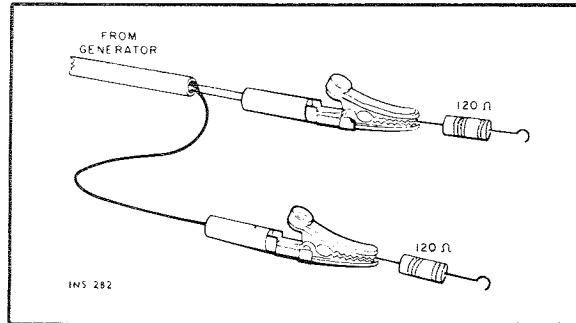
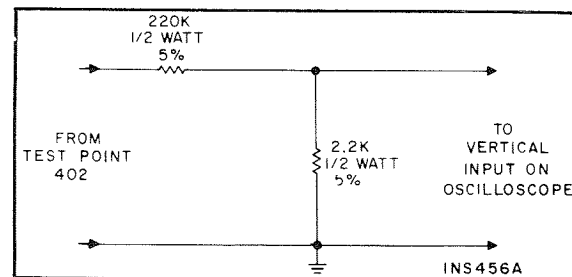

Figure 7. Connections To Provide 300-ohm Generator Output Impedance. Matching Resistors Reduce Generator Voltage By Half At Antenna Terminals.
Figure 8. Voltage Divider Probe.
- (1) Set TUNING dial pointer to zero (0) calibration mark on the logging scale. If the dial pointer is not centered on the 0 at the extreme end of the knob rotation, reposition the pointer assembly on the dial cord and cement the pointer in place to prevent slippage. Allow cement to thoroughly dry.
- (2) Connect an accurately calibrated DC VTVM to Test Point 9B (on TUNE-O-MATIC circuit board). DO NOT USE DC VOM.
- (3) Rotate TUNING knob to center dial pointer on 88 MHz calibration mark on dial glass.
- (4) Using a small screwdriver, adjust R2B, FM ALIGNMENT POT. for DC VTVM reading of exactly 4.3 volts. Disconnect DC VTVM.
- (5) Connect an FM generator to the FM ANTenna terminals. Use a 120-ohm composition resistor in series with each lead from the generator (see Figure 7).
- (6) Connect a scope and an AC VTVM to either LEFT or RIGHT RCDR OUT jack.
- (7) Set FM generator frequency to receiver frequency, 90 MHz, modulated with 400 Hz,  $\pm 75$  kHz deviation. Set generator output level as low as possible.
- (8) Align (oscillator coil) L504 first, then (mixer coil) L503, and (RF coil) L502 for maximum reading on AC VTVM and tuning meter, and maximum waveform amplitude and symmetry.
- (9) Set generator frequency and TUNING dial pointer to 106 MHz. Align (oscillator trimmer) C512 first, then (mixer trimmer) C511, and (RF trimmer) C503 for maximum reading on AC VTVM and tuning meter, and maximum waveform amplitude and symmetry.
- (10) Repeat alignment several times until accurate dial calibration and maximum gain are obtained. Keep generator output level as low as possible during all adjustments.
- (1) Connect an FM generator to the FM ANTenna terminals. Use a 120-ohm composition resistor in series with each lead from the generator (see Figure 7).
- (2) Set generator frequency to same frequency as receiver. Set generator RF output level to full output (approximately 100,000  $\mu$ V) with audio modulation off.
- (3) Adjust generator frequency for peak tuning meter reading.
- (4) Adjust FM METER ADJ. pot. R328 (on AM/FM IF, MPX board) for tuning meter reading of 4.5.
- (1) Connect RF output of multiplex generator to the FM ANTenna terminals. Use a 120-ohm composition resistor in series with each lead from the RF output (see Figure 7). Set MPX generator for external modulation with 19 kHz pilot carrier,  $\pm 7.5$  kHz deviation (10% pilot, no audio). Tune receiver to RF frequency of MPX generator.
- (2) Connect DC VTVM to Test Point 403 (pin 4G on AM/FM IF, MPX board).
- (3) Adjust cores of Z401 and Z402 (on AM/FM IF, MPX board) for maximum reading on DC VTVM (2.5 to 4 VDC).
- (4) Connect output of audio generator, set for 1 kHz, to the external modulation input of MPX generator and to external sync input of an oscilloscope. Adjust audio generator level for composite signal  $\pm 75$  kHz deviation (10% pilot, 90% audio). Modulate right channel only.
- (5) Connect AC VTVM to LEFT RCDR OUT jack. Connect scope through voltage divider probe (see Figure 8) to Test Point 402 (pin 4K on AM/FM IF, MPX board).